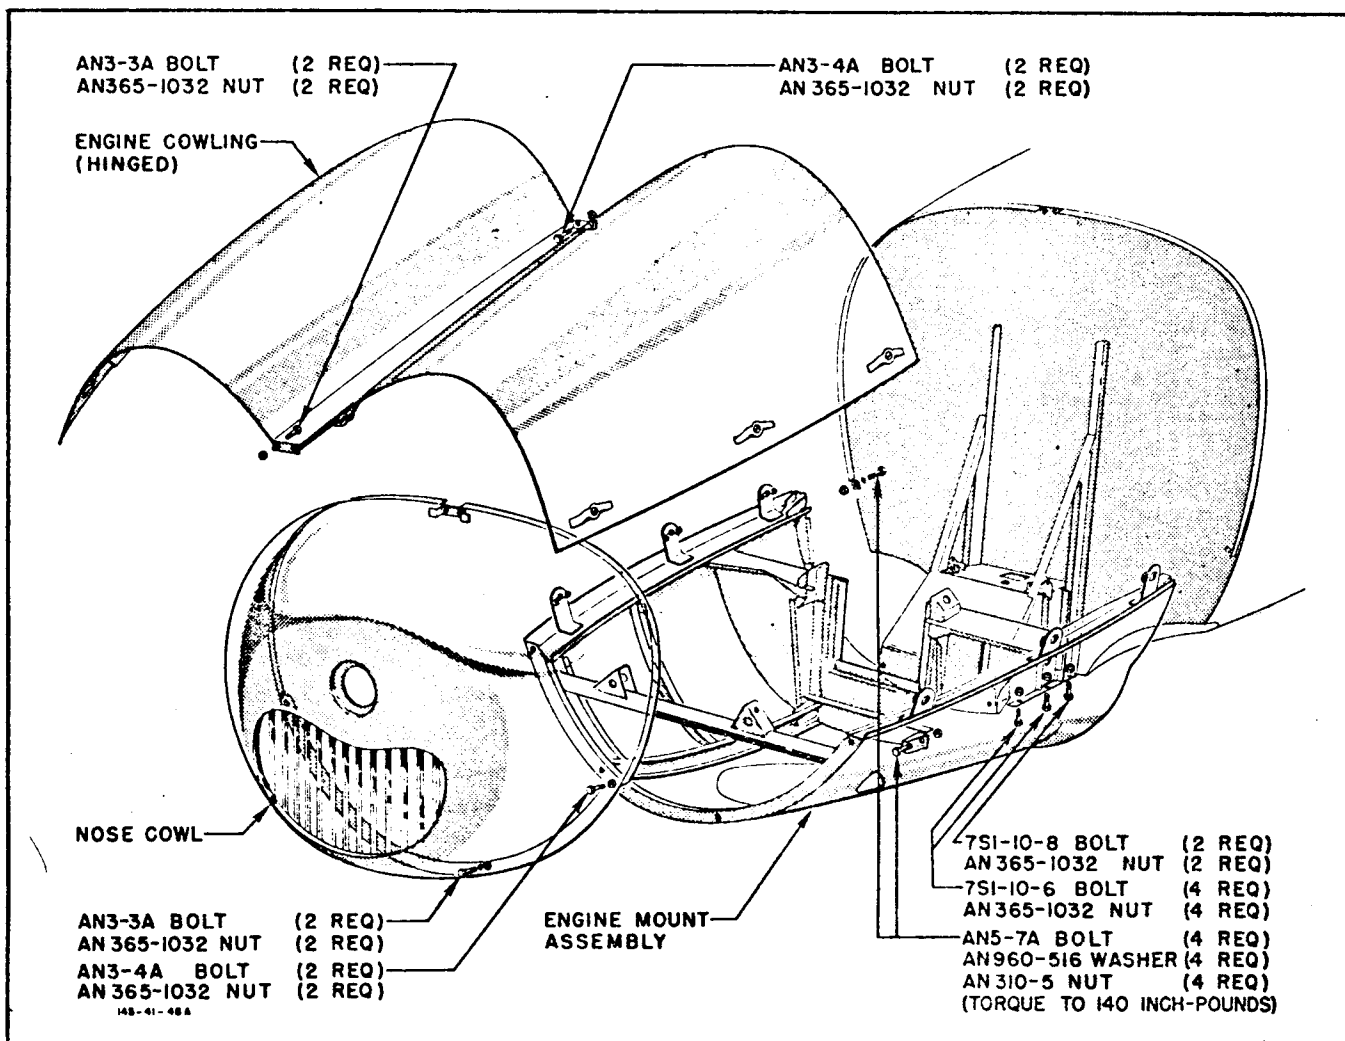

Figure 12 - ENGINE MOUNT AND ENGINE COWLING INSTALLATION
**Installing and Removing Engine Mount Assembly—The parts necessary to attach or detach the engine mount assembly are shown in figure 12.**
**Installing and Removing Engine Cowling—The parts necessary to attach or detach the engine cowling are shown in figure 12.**